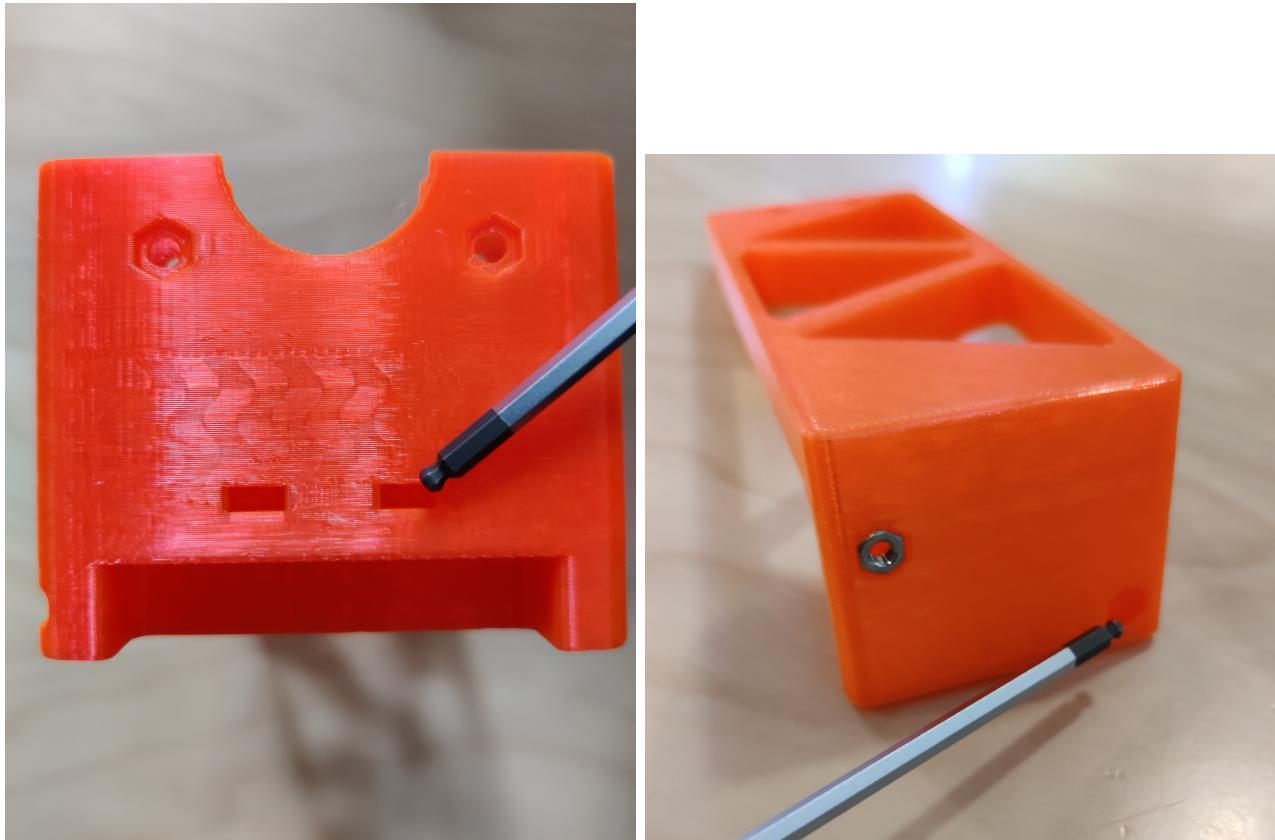

Fig. 4.9
8) In the bottom of the pump body, push in two 3 mm nuts into the small holes (Figure 4.9, left). Now turn your attention to the valve fitter. Push in two 3 mm nuts into the hexagonal
holes in the valve fitter (Figure 4.9, right).